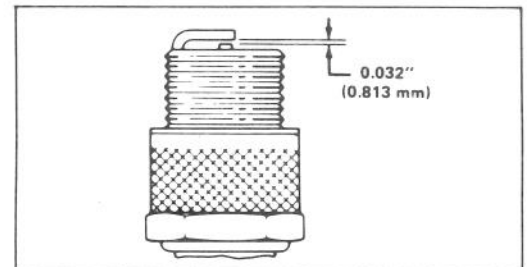

Figure 12
3. Set air gap at 0.032" (0.813 mm) (Fig. 12). Install correctly gapped spark plug and gasket seal. Tighten plug firmly to 10 ft-lb (13.6 N-m).